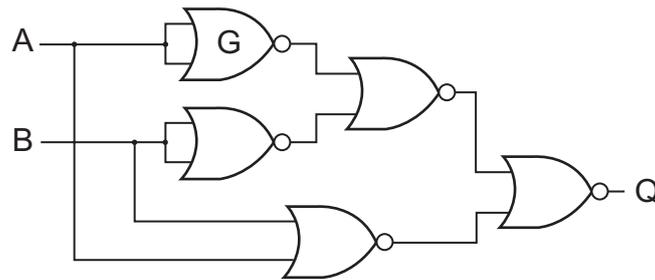

Fig. 10(a)
10 (a) An arrangement of logic gates is shown in Fig. 10(a).
- (i) Name the logic gate labelled **G** shown in Fig. 10(a). [1]